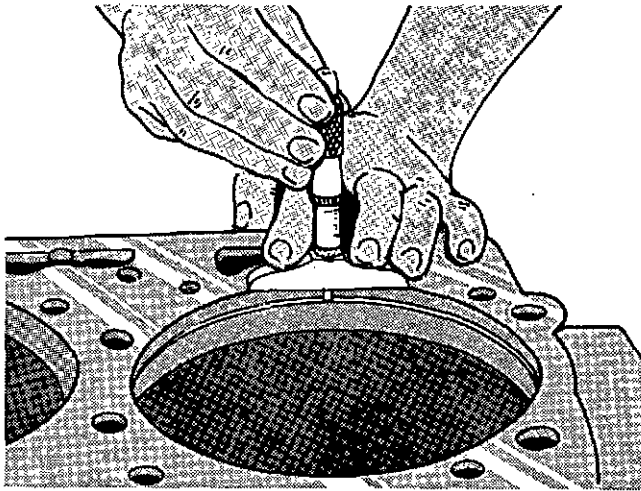

Fig. 1-6 (N10105). Measure The Depth of The Counterbore.
- a. Measure the depth of the counterbore at four equally spaced points at the edge of the bore, Fig. 1-6. There must not be more than a total of 0.001 inch [0.03 mm] difference in the measurements around the circumference of the counterbore.